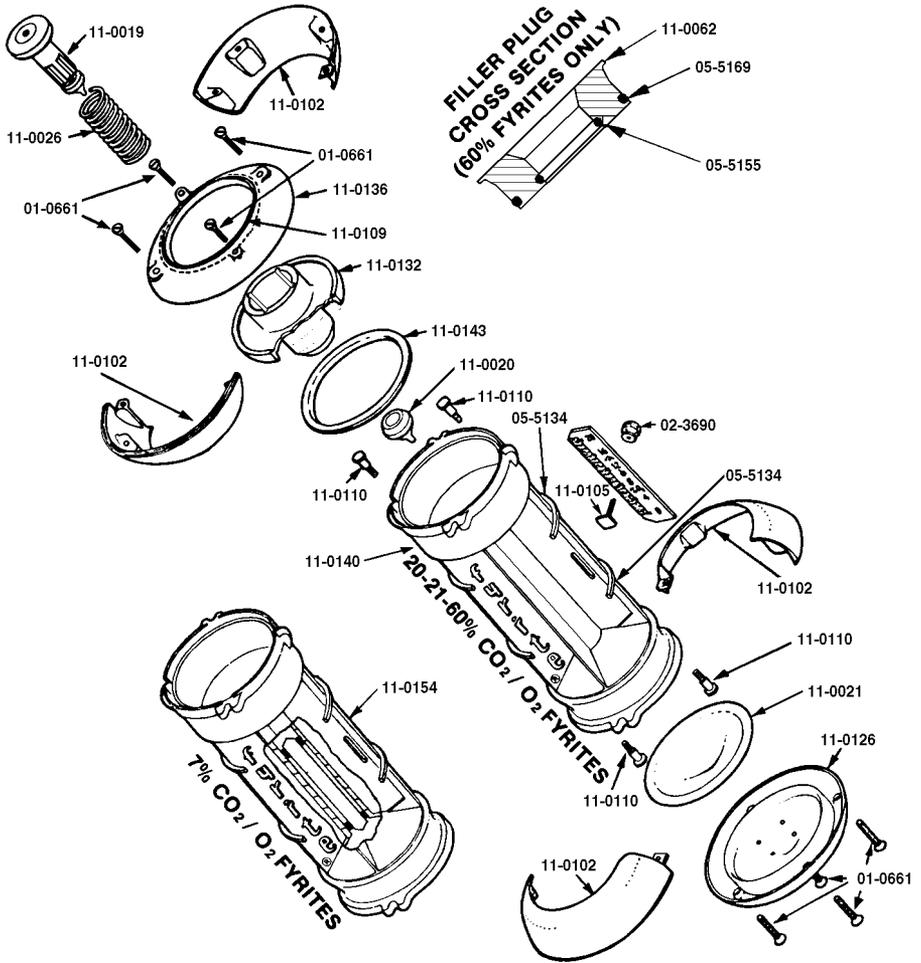

Figure 33. FYRITE parts breakout.
CO₂ / O₂ FYRITEs: Make certain that Top Cap Ring Gasket (11-0109, Figure 33) is in place between metal Top Cap Ring and plastic Top Cap. Draw the 4 machine screws down with light screwdriver force.
6.6 Replacing FYRITE Plastic and Rubber Parts (Refer to Illustrated Parts List FYRITE CO₂/O₂ [Section 7.0 and Fig. 33])
(Refer to Figure 33 FYRITE Parts Breakout)